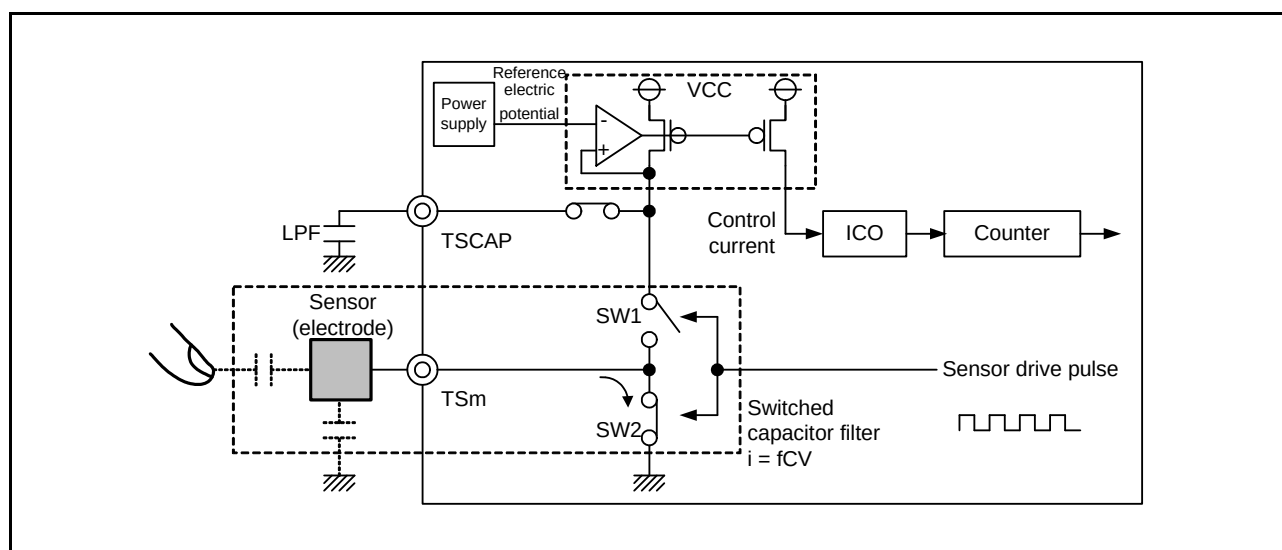

Figure 43.6 Discharging Operation (m = 2, 3, 4, 7, 8, 12, 13, 22, 23, 27, 30, 35)
- (2) The charged capacitance is discharged by turning SW1 off and SW2 on (Figure 43.6).